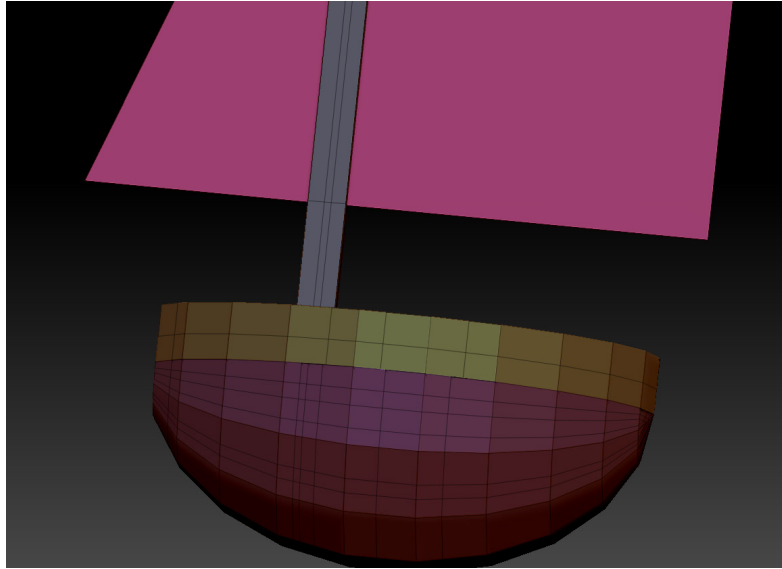

Figure 3-131 The edge loops are added
2. Similarly, add more edges in the *boat*, as shown in Figure 3-131.